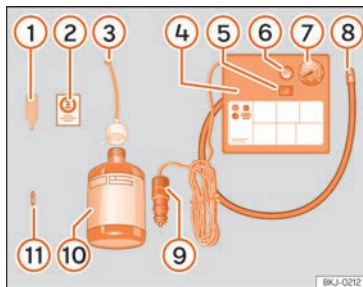

Fig. 202 Standard display: contents of the anti-puncture kit.
The anti-puncture kit is located underneath the floor covering in the luggage compartment. Includes the following components >>> **Fig. 202:**
- Unscrew the tyre valve cap and insert. Use the device >>> **Fig. 202 ①** to remove the valve cap. Place it on a clean surface.
- Shake the tyre sealant bottle vigorously >>> **Fig. 202 ⑩**.
- Screw the tyre inflation hose >>> **Fig. 202 ③** into the tyre sealant bottle. The bottle's seal will break automatically.
- Remove the filler cap >>> **Fig. 202 ③** and screw the open end of the tube into the tyre valve.
- Replace the howitzer with the device >>> **Fig. 202 ①** onto the tyre valve.
- Screw the tyre inflation tube of the compressor >>> **Fig. 202 ⑧** on the tyre valve.
- Check that the air evacuation screw is closed >>> **Fig. 202 ⑥**.
- Attach the connector >>> **Fig. 202 ⑨** to the vehicle's 12 volt power outlet >>> **page 179**.
- Switch on the air compressor with ON/OFF switch >>> **Fig. 202 ⑤**.
- Attach the sticker >>> **Fig. 202 ②** to the instrument panel display, within the driver's field of vision.
Screw in the inflator tube >>> Fig. 202  again and check the pressure on the gauge .